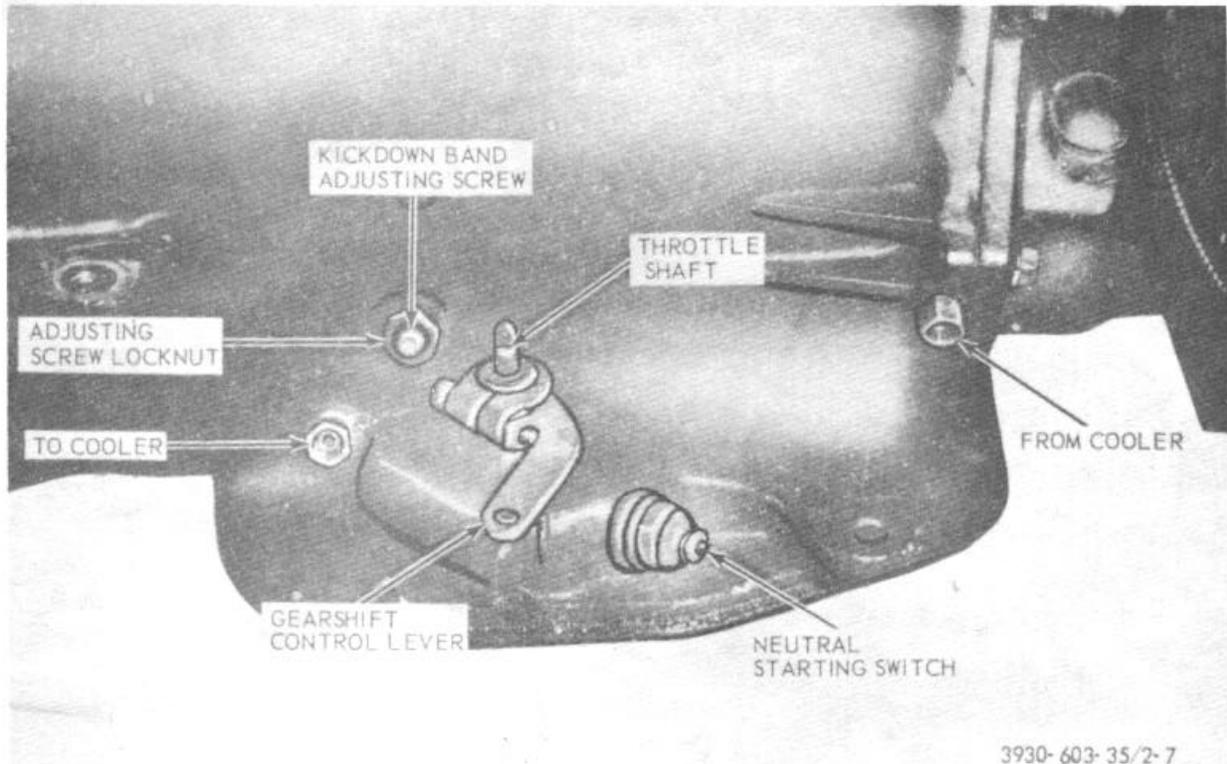

Figure 2-7. Transmission external controls, and adjustments.
- (1) Disconnect wire from neutral switch (fig. 2-7). Connect one lead of test lamp to battery current and other lead to switch terminal. If test lamp does not light, the switch may be defective, out of adjustment, or gearshift control cable may be improperly adjusted.
- (2) Unscrew switch from transmission case allowing fluid to drain into a container. Move range selector to neutral position and inspect to see that switch operating lever fingers are centered in switch opening in transmission case.
- (1) Loosen locknut on kickdown band adjusting screw (fig. 2-7) and back off approximately five turns. Check adjusting screw for free turning in transmission case.
- (2) Use band adjustment wrench with adapter and tighten band adjusting screw 47 to 50 inch-pounds torque. If adapter is not used, tighten adjusting screw to 72 inch-pounds, which is true torque.
- (3) Back off adjusting screw two turns. Hold adjusting screw in this position and tighten locknut to 29 foot-pounds torque.